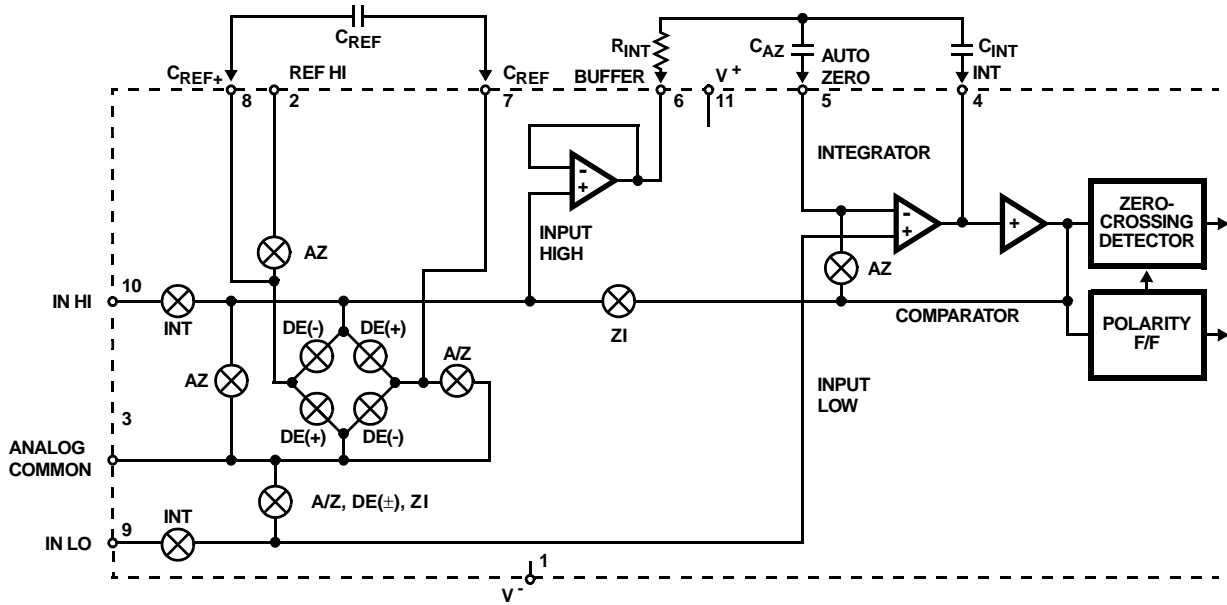

FIGURE 3. ANALOG SECTION OF ICL7135
3. Tested in 4^{1/2} digit (20,000 count) circuit shown in Figure 3. (Clock frequency 120kHz.)
Figure 3 shows the Block Diagram of the Analog Section for the ICL7135. Each measurement cycle is divided into four phases. They are (1) auto-zero (AZ), (2) signal-integrate (INT), (3) de-integrate (DE) and (4) zero-integrator (ZI).